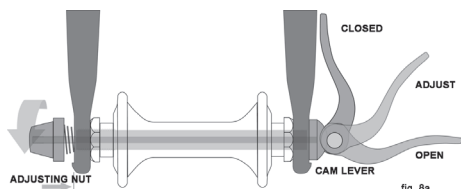
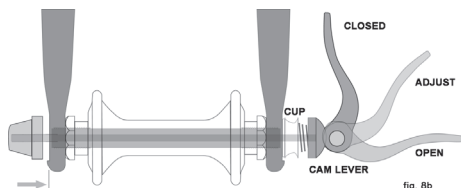
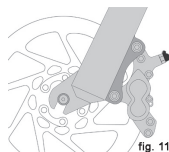
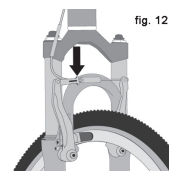

fig. 8a
fig. 8b
fig. 11
fig. 12
There are currently two types of over-center cam wheel retention mechanisms: the traditional over-center cam (fig. 8a) and the cam-and-cup system (fig. 8b). Both use an over-center cam action to clamp the bike's wheel in place. Your bicycle may have a cam-and-cup front wheel retention system and a traditional rear wheel cam action system.
a. Adjusting the traditional cam action mechanism (fig. 8a)
b. Adjusting the cam-and-cup mechanism (fig. 8b)
(1) If your bike has rim brakes, disengage the brake's quick-release mechanism to increase the clearance between the tire and the brake pads (See Section 4.C fig. 11 through 15).
(2) If your bike has cam action front wheel retention, move the cam lever from the locked or CLOSED position to the OPEN position (figs. 8a & b). If your bike has through bolt or bolt-on front wheel retention, loosen the fastener(s) a few turns counter-clockwise using an appropriate wrench, lock key or the integral lever.
(3) If your front fork has a clip-on type secondary retention device, disengage it. If your front fork has an integral secondary retention device, and a traditional cam action system (fig. 8a) loosen the tension adjusting nut enough to allow removing the wheel from the dropouts. If your front wheel uses a cam-and-cup system, (fig. 8b) squeeze the cup and cam lever together while removing the wheel. No rotation of any part is necessary with the cam-and-cup system.
(1) If your bike has cam action front wheel retention, move the cam lever so that it curves away from the wheel (fig. 8b). This is the OPEN position. If your bike has through bolt or bolt-on front wheel retention, go to the next step. Make sure that the brake disc is positioned on the correct side so it can fit in the caliper.
(2) With the steering fork facing forward, insert the wheel between the fork blades so that the axle seats firmly at the top of the fork dropouts. The cam lever, if there is one, should be on rider's left side of the bicycle (fig. 8a & b). If your bike has a clip-on type secondary retention device, engage it.
(3) If you have a traditional cam action mechanism: holding the cam lever in the ADJUST position with your right hand, tighten the tension adjusting nut with your left hand until it is finger tight against the fork dropout (fig. 8a). If you have a cam-and-cup system: the nut and cup (fig. 8b) will have snapped into the recessed area of the fork dropouts and no adjustment should be required.
(4) While pushing the wheel firmly to the top of the slots in the fork dropouts, and at the same time centering the wheel rim in the fork:
(a) With a cam action system, move the cam lever upwards and swing it into the CLOSED position (fig. 8a & b). The lever should now be parallel to the fork blade and curved toward the wheel. It should point backwards to avoid being opened by contact while riding. To apply enough clamping force, you should have to wrap your fingers around the fork blade for leverage, and the lever
(2) If your bike has rim brakes, disengage the brake's quick-release mechanism to increase the clearance between the wheel rim and the brake pads (see Section 4.C, figs. 11 through 15).
(3) On a derailleur gear system, pull the derailleur body back with your right hand.
(4) With a cam action mechanism, move the quick-release lever to the OPEN position (fig. 8b). With a through bolt or bolt on mechanism, loosen the fastener(s) with an appropriate wrench, lock lever or integral lever; then push the wheel forward far enough to be able to remove the chain from the rear sprocket.
(5) Lift the rear wheel off the ground a few inches and
Some bikes are equipped with a cam action seat post binder. The seat post cam action binder works exactly like the traditional wheel cam action fastener (Section 4.A.2) While a cam action binder looks like a long bolt with a lever on one end and a nut on the other, the binder uses an over-center cam action to firmly clamp the seat post (see fig. 8a).
3. Some bicycle brakes, such as disc brakes (fig. 11) and linear-pull brakes (fig. 12), are extremely powerful. Take extra care in becoming familiar with these brakes and exercise particular care when using them.
Most rim brakes have some form mechanism to allow the brake pads a wheel is removed or reinstalled. When the brake quick release is in the open position, the brakes are inoperative. Ask your dealer to make sure that you understand the way the brake quick release works on your bike (see figs. 12, 13, 14 & 15) and check each time to make sure both brakes work correctly before you get on the bike.